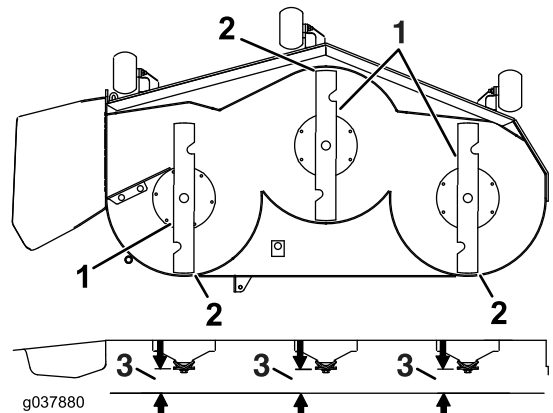

Figure 103
7. Check the front-to-rear blade level (Figure 103). Ensure the front blade tip is lower than the rear blade tip as shown in the block height and rake table. If adjustment is needed, continue with this procedure.